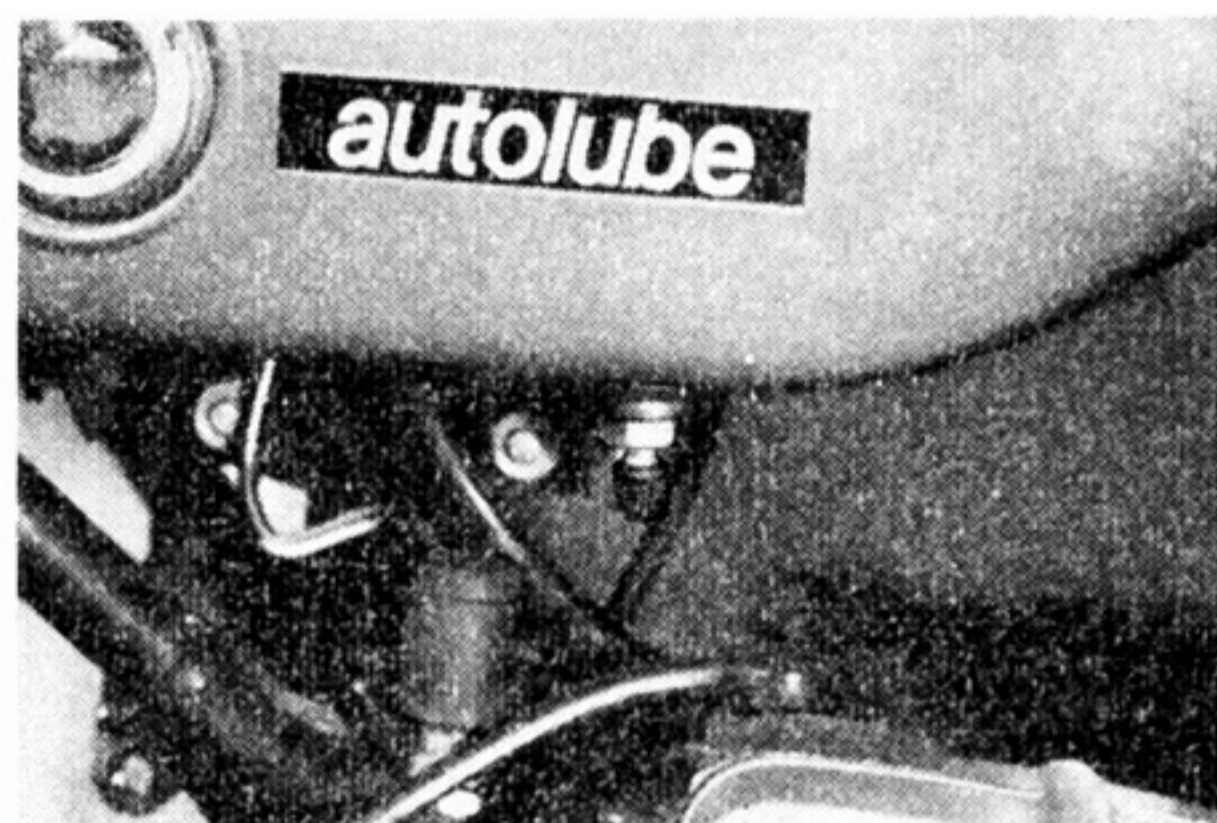

Fig. 3-1-10
10. Disconnect the oil pipe from the oil tank bottom. (Fig. 3-1-10)